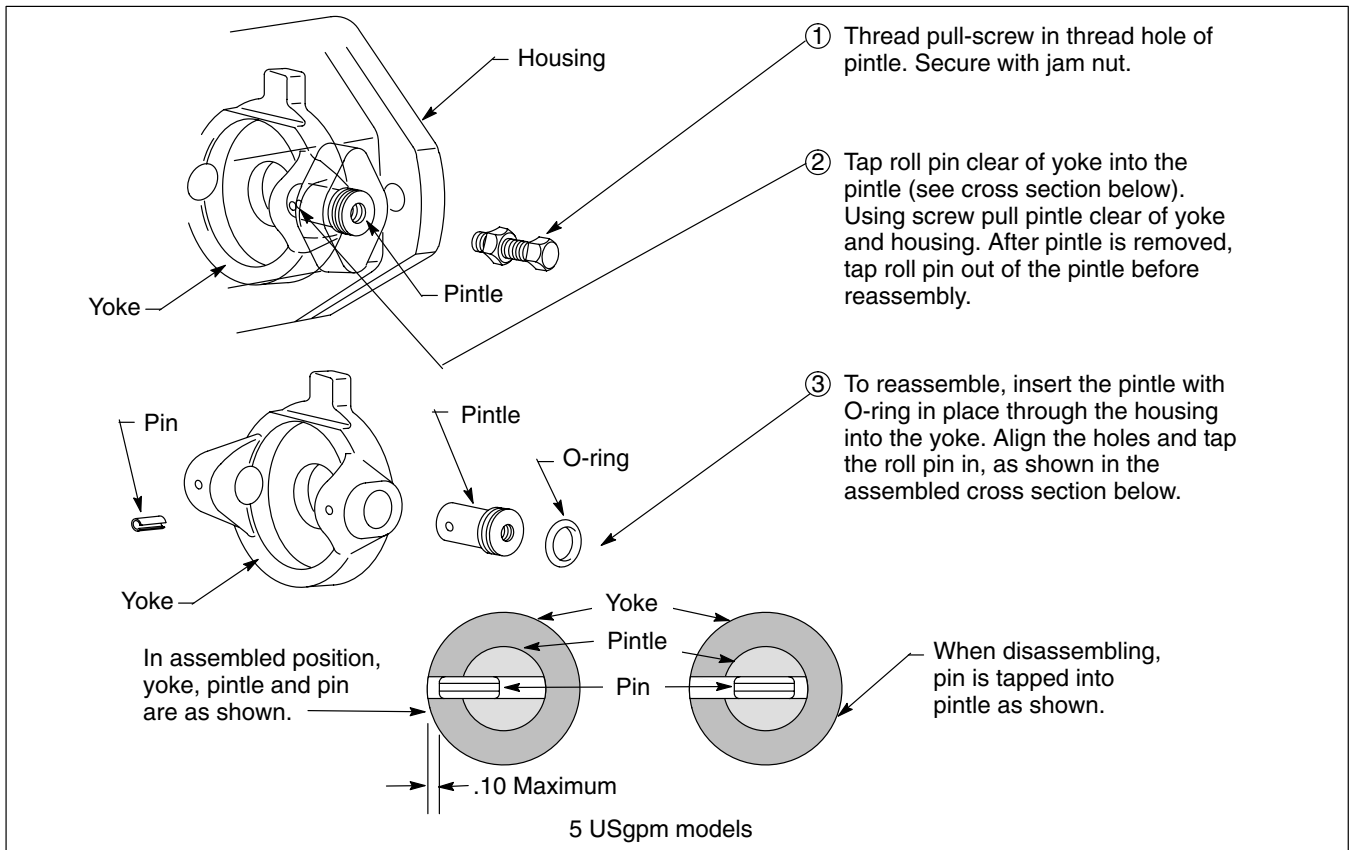

Figure 10.
6. Yoke Removal – Figures 10 and 11 illustrate the procedure for removal of the yoke from a variable displacement unit. Yokes of the smaller units are similar in design to the larger units. Only the methods of retaining are different.
1. **Yoke** – Install the yoke in the housing as illustrated in Figures 10 and 11.